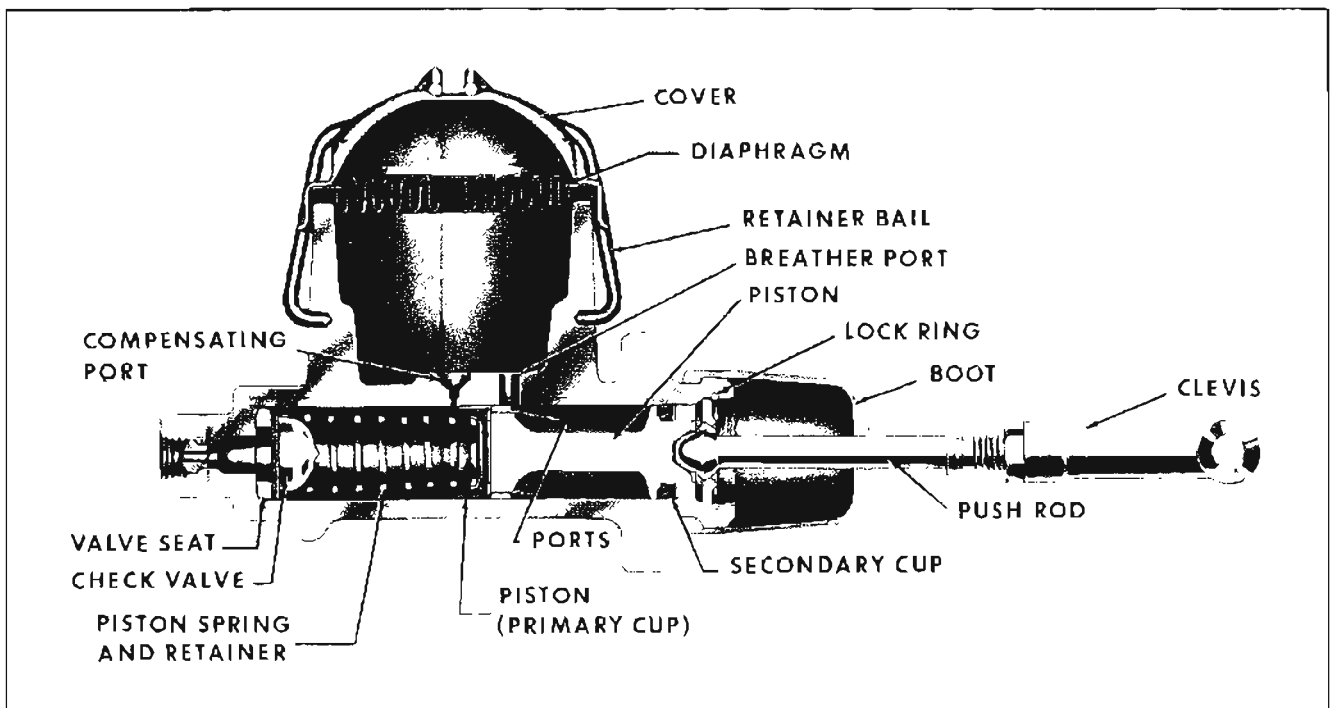

Figure 9-13—Broke Master Cylinder
1. Clean outside of master cylinder thoroughly. Remove reservoir cover and diaphragm. Turn cylinder over and pump push rod by hand to drain all brake fluid. Always discard used fluid. See Figure 9-13.
2. Install valve seat washer, check valve, spring, primary cup, and piston with secondary cup. Then install push rod and stop plate assembly. Hold push rod in and install lock ring. See Figure 9-13.